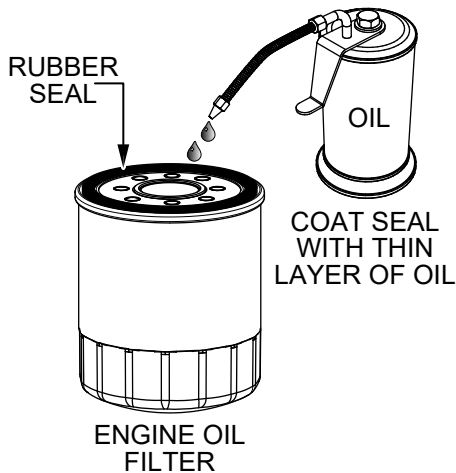

Figure 66. Engine Oil Filter
- Coat the seal of the new oil filter (Figure 66) with clean engine oil. Install the new filter **by hand** until it contacts the engine sealing surface, then tighten it another 1/2 turn. **DO NOT** use a strap wrench or any other tool to tighten the filter.